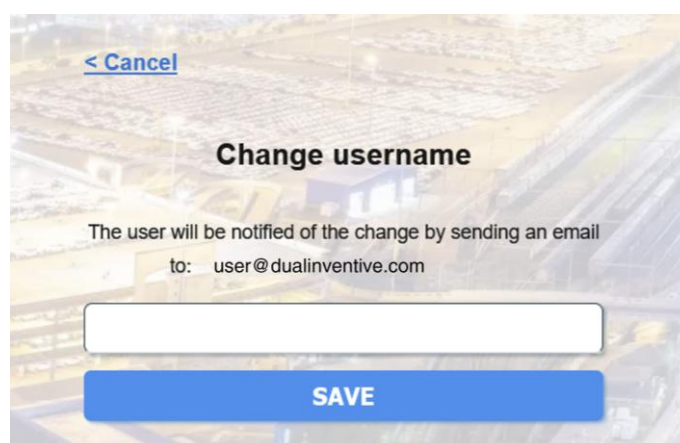

Figure 30 Edit username
2. To change the username, the administrator clicks the “Edit username” button on the target user's profile page (see Figure 30).
3. The user will be notified of the change via email (see Figure 30).